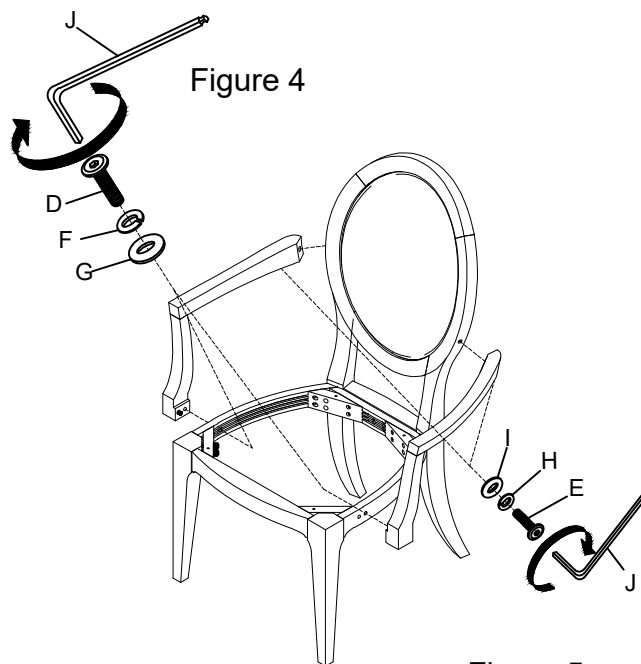

Figure 5
5. Use Bolt (E), Lock Washer (H) and Flat Washer (I) to attach the arm assembly to back frame. Tighten bolt with Allen key (J). (See Figure 5)